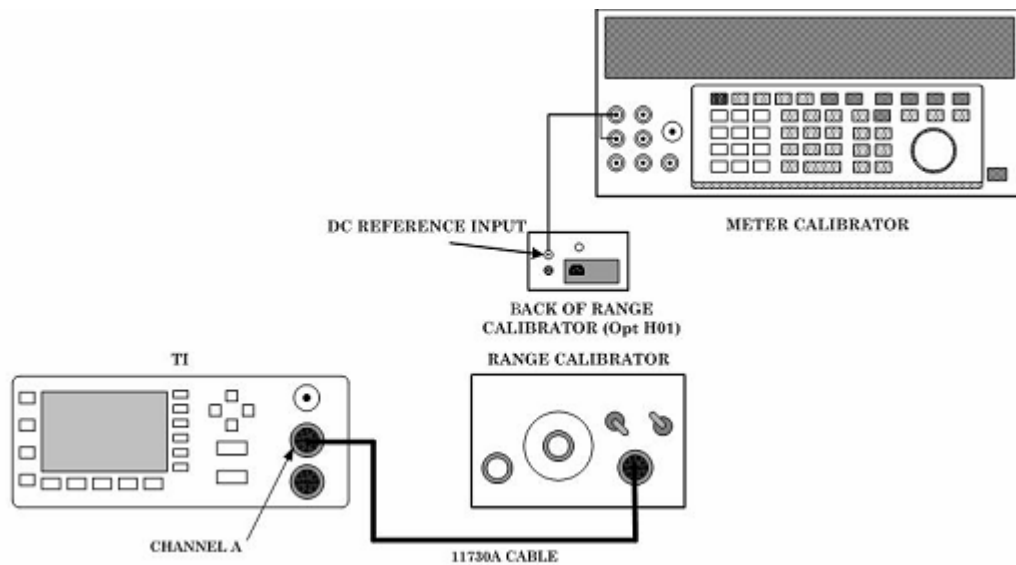

Figure 2. Instrument accuracy test.
- (1) Press **TI POWER** and range calibrator **LINE** switches to off position.
- (2) Connect equipment as shown in figure 2.
Figure 2 shows the **HI/LO** outputs of the DC calibrator connected to the DC reference input of the range calibrator. Ensure that the **Guard** and **LO** output of the voltage calibrator are floating; **EX GRD** is on; **EX SNS** is off; and the **V-GUARD** terminal is disconnected from the **GROUND** terminal.